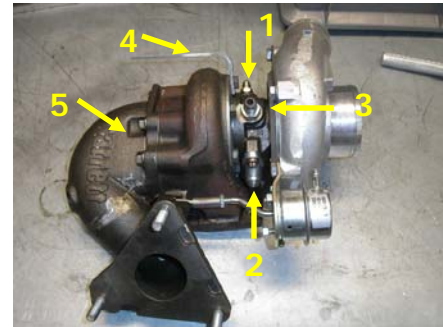

Fig. 12
15. Prepare the turbo for installation – install the oil inlet fitting, the oil drain fitting, water inlet fitting, heat shield bracket and the down pipe prior to installing the turbocharger (Figure 12):